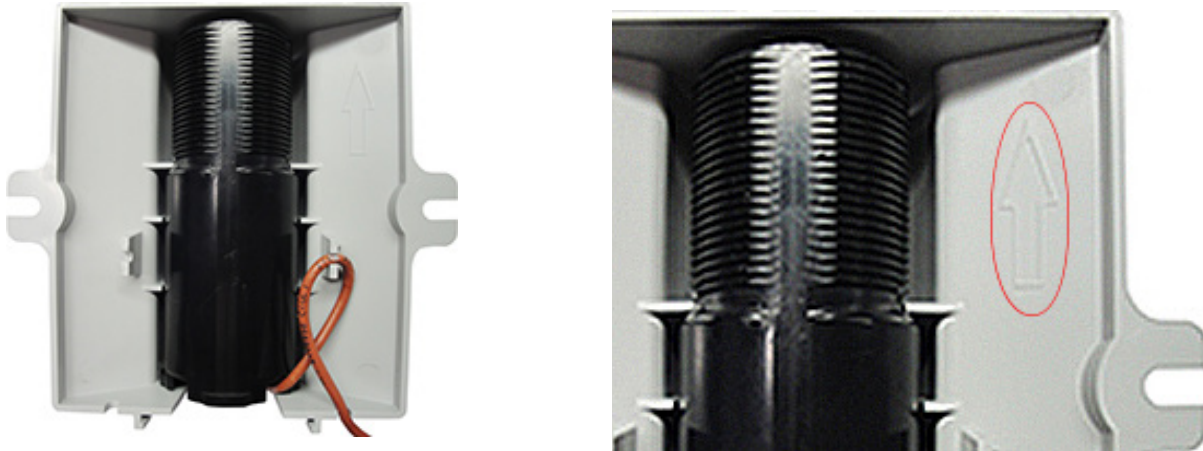

Figure 18: Endpoint orientation
3. Place the endpoint into the enclosure, antenna (threaded portion) up, using the endpoint alignment brackets, as shown in Figure 18. Make sure the flat side of the endpoint is facing out (toward the installer).
NOTE: The arrow on the inside wall of the enclosure points up to show the correct endpoint position. See the close-up image in Figure 18.